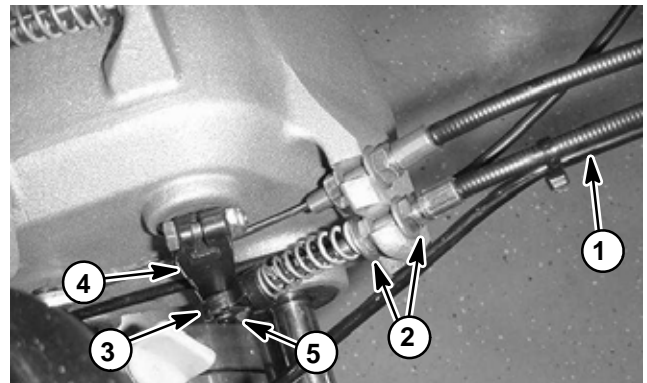

Figure 6
3. Remove traction cable from the gearbox as follows (Fig. 6):
2. Route traction cable to the gearbox. Install cable to the gearbox as follows (Fig. 6):